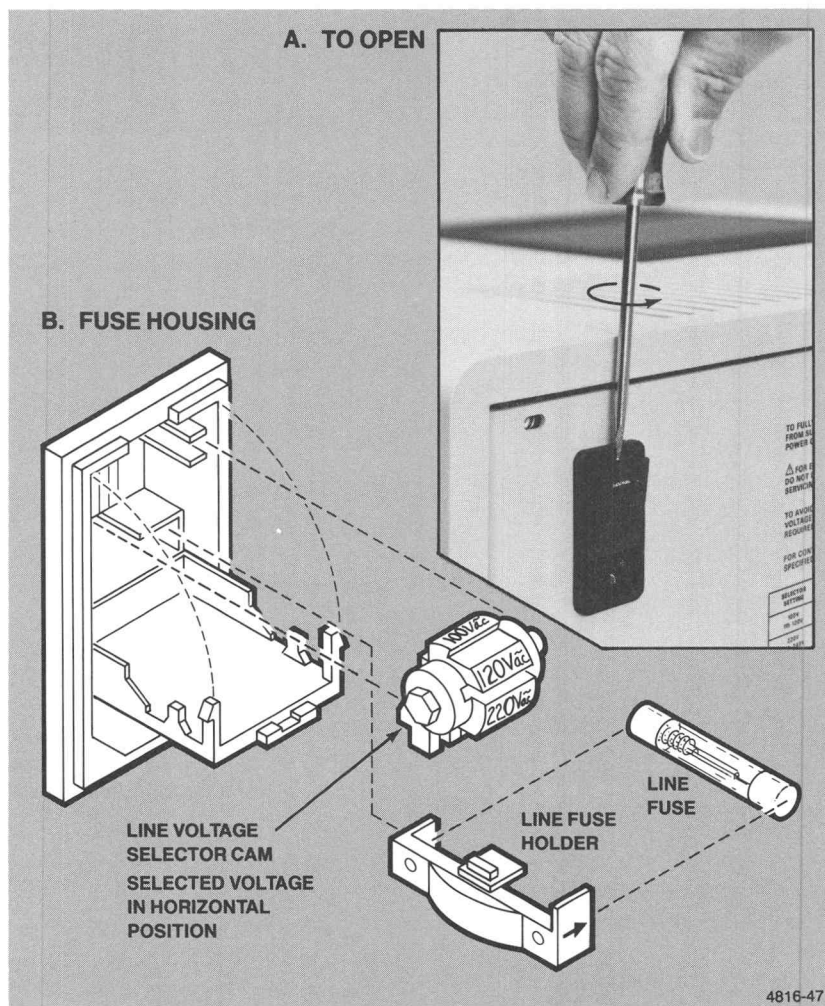

Figure D-5. Line Voltage Selector.
The Line Voltage Selector chooses the operating voltage for the copier and contains the line fuse. See Figure D-5 for the selector's location on the copier. Table D-1 gives the Line Voltage Selector settings, operating voltage ranges, operating frequency ranges, and proper line fuse values.
2. Using a small flat screwdriver, place the tip into the pry spot located on the top of the selector (see Figure D-5).